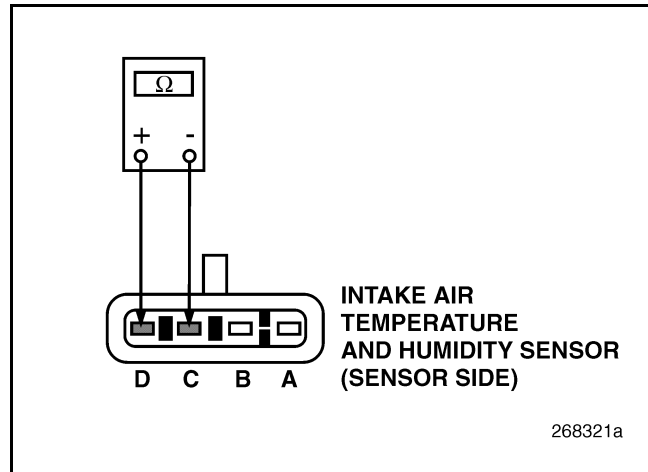

Figure 308
3. Measure the resistance between pins C and D of the IATH Sensor with the ambient air temperature between 32° and 104°F (0° and 40°C) (see Figure 308).